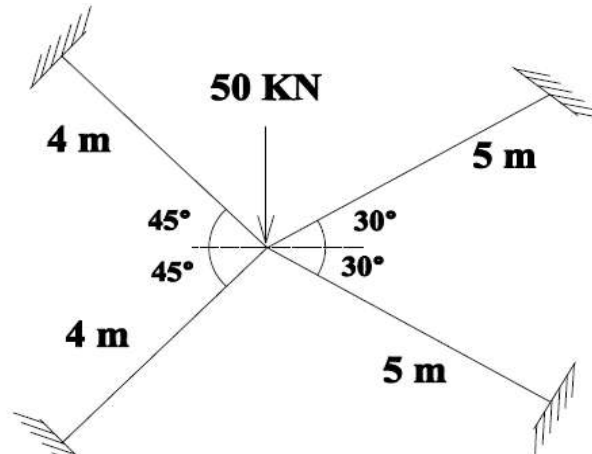

Fig.5
3. Resolve the forces in the members of the truss shown in Fig.5 by finite element method. Take  $E = 200 \text{ GPa}$ .